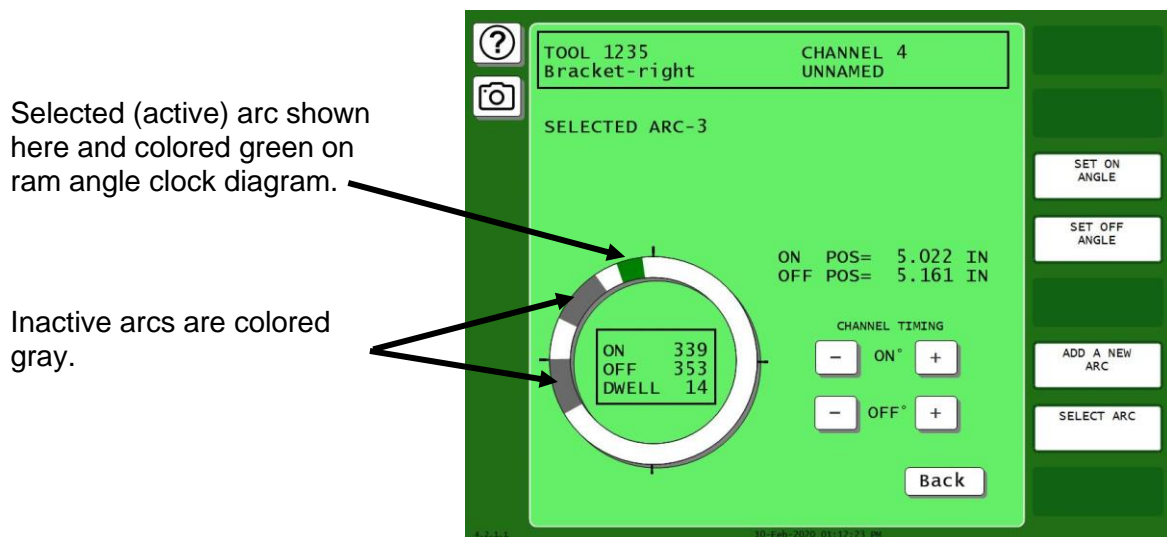

Figure 5-50. Cam Channel On/Off Program Screen: Three On/Off Arcs
- Repeat steps 2 and 3 to add additional arcs. Figure 5-50 shows the Cam Channel On/Off Program screen with a third arc programmed for an On angle of 339° and an Off angle of 353°. Ram On position is 5.022 in., ram Off position 5.161 in.